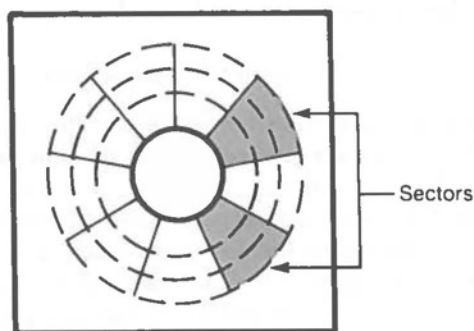
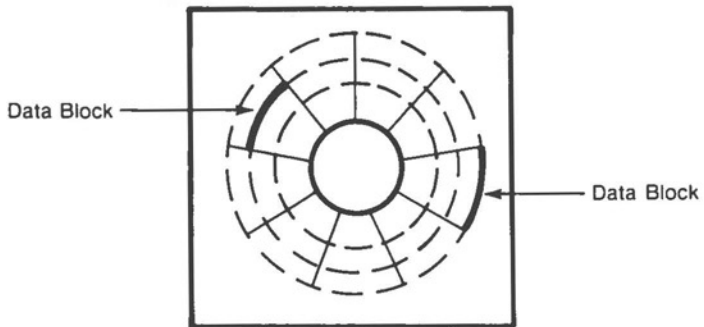

Figure 1-6 Diskette Sectors
Figure 1-7 Diskette Data Blocks
6. Each track is further divided into sectors (see Figure 1-6). Either eight or nine sectors per track can be defined on a diskette. Recording or reading of data by most programs, including application programs, is performed one sector at a time. Thus, the data in each sector can be referred to as a data block, or a physical record (see Figure 1-7). Each data block or physical record can be treated by the software as containing one logical record (the record of one account, one customer, one order, etc.), or as part of one larger logical record, or multiple logical records. A set of